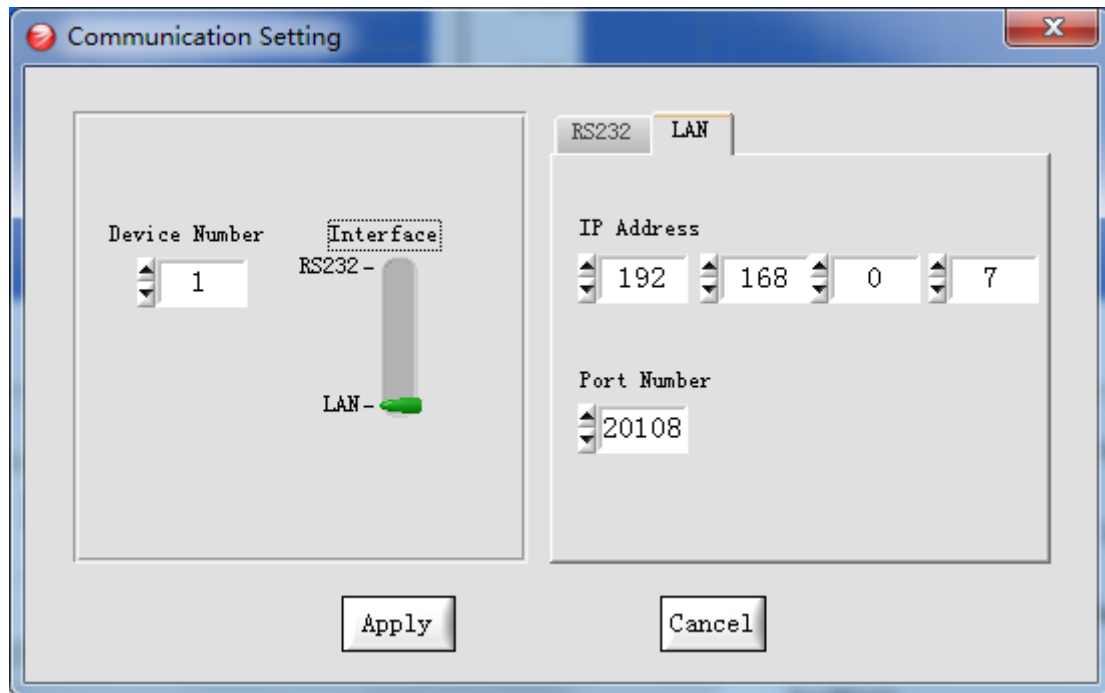

Figure 3.2.14 LAN port computer setting
(4) Setting of computer: As shown in Figure 3.2.14, select LAN as the communication Interface for "Interface", the value of "Device Number" is consistent with that of "Address" of the power supply, "IP address" is the IP address of the power supply, and "Port Number" is the Port Number of the power supply. After filling in the information, click Apply.